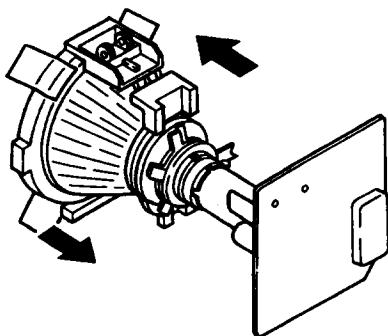

Fig. 3-1
(Fig. 3-1 to 3-3)
4. Move the deflection yoke forward, and adjust so that the entire screen becomes red. (Fig. 3-1)